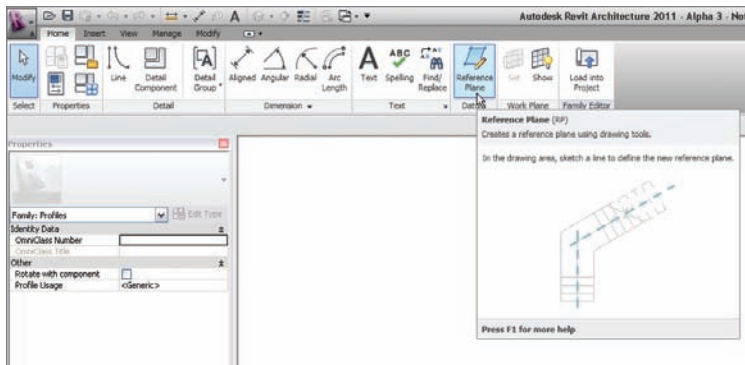

FIGURE 17.1 The Reference Plane button on the Home tab
1. On the Datum panel of the Home tab, select the Reference Plane button, as shown in Figure 17.1.